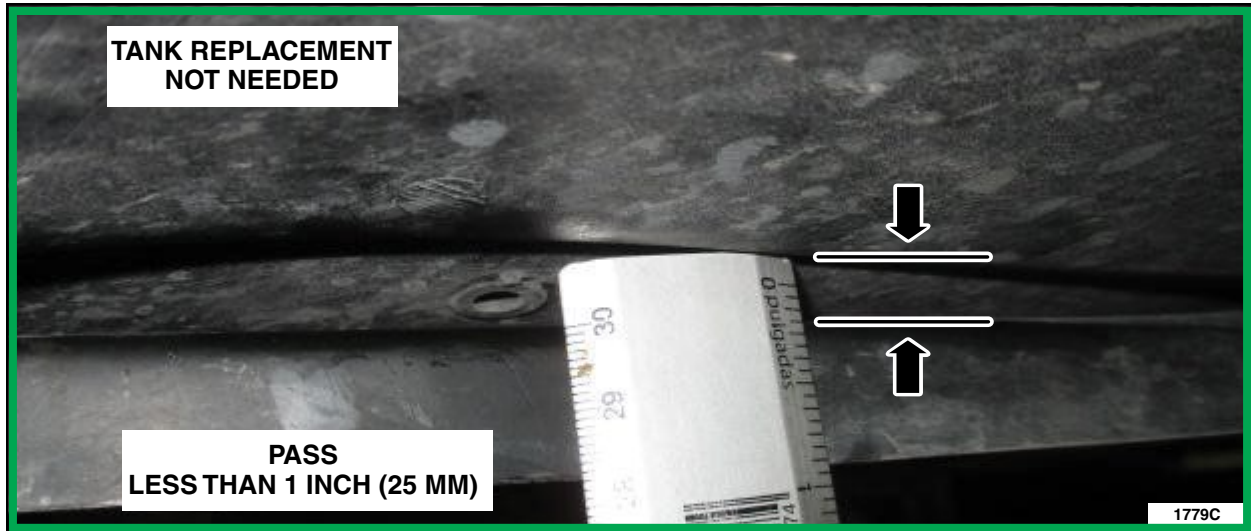

FIGURE 1
6. Inspect fuel tank for signs of excessive deformation (up to 25mm or 1 inch upward is acceptable). See Figures 1 and 2. Replace the fuel tank and fuel delivery module only if gap is greater than 1 inch upward. Please follow the WSM procedures in Section 310- 01.
- a. Digital images are required to be attached to each fuel tank part order. Before submitting VIN-specific part order to SSSC, review new digital image submission requirements on pages 3 and 4 of Attachment II in the Dealer Bulletin. See Figures 1 through 6 for examples.